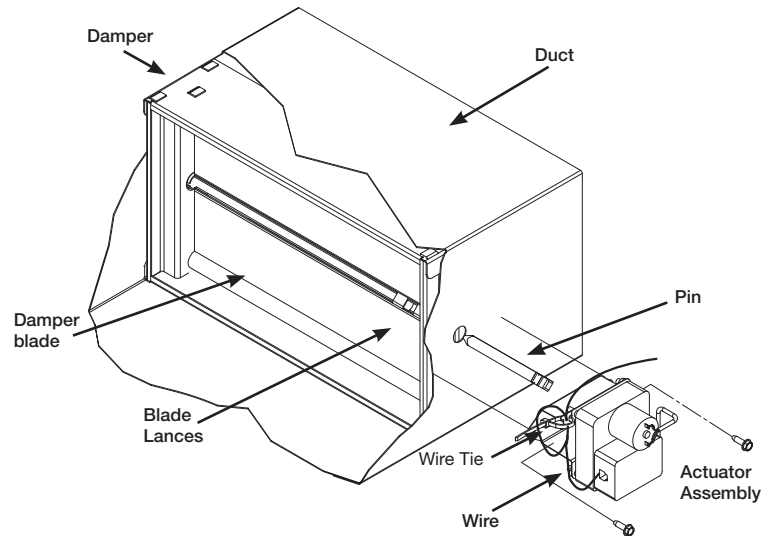

Figure 2
- 1) Install the RBD series damper into the ductwork with the lanced end of the blade positioned to the side of the duct where the actuator is to be located (see Figure 2).
- 4) Install the actuator by aligning the coupler over the end of the square pin and sliding the actuator assembly onto the pin until the bracket is in contact with the duct surface. Rotate the actuator and blade until the actuator is positioned as shown in Figure 2.